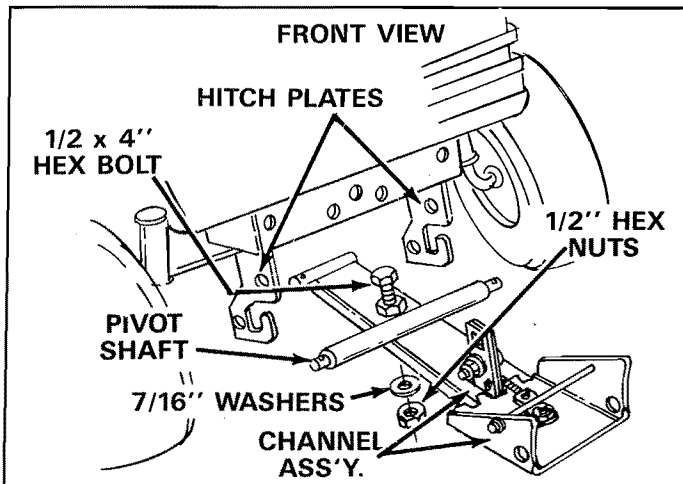

FIGURE 6
1. Assemble one 1/2" x 4" hex bolt, one 1/2" hex nut and one 7/16" standard washer into top of slotted hole in channel assembly. Assemble one 7/16" standard washer and one 7/16" hex nut on bottom of 1/2" bolt under channel assembly. See figure 6. **DO NOT TIGHTEN AT THIS TIME.**
2. Assemble channel assembly to hitch plates at front of tractor as shown in figures 6 and 7.